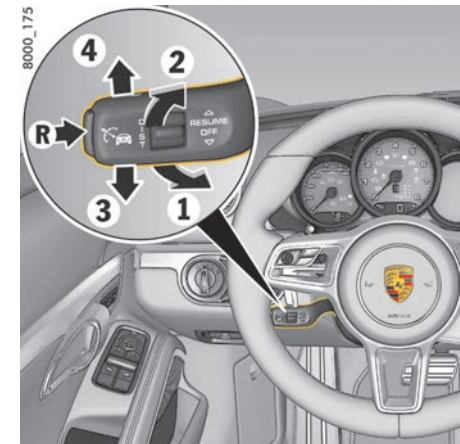

Fig. 2: Control stalk for adaptive cruise control (ACC)
1. Press the control stalk on the steering wheel forward (Fig. 2 on page 33, **1**).
- ▶ Briefly press the control stalk on the steering wheel forward (Fig. 2 on page 33, position **1**).
- ▶ Briefly pull the control stalk on the steering wheel towards the steering wheel (Fig. 2 on page 33, position **2**).